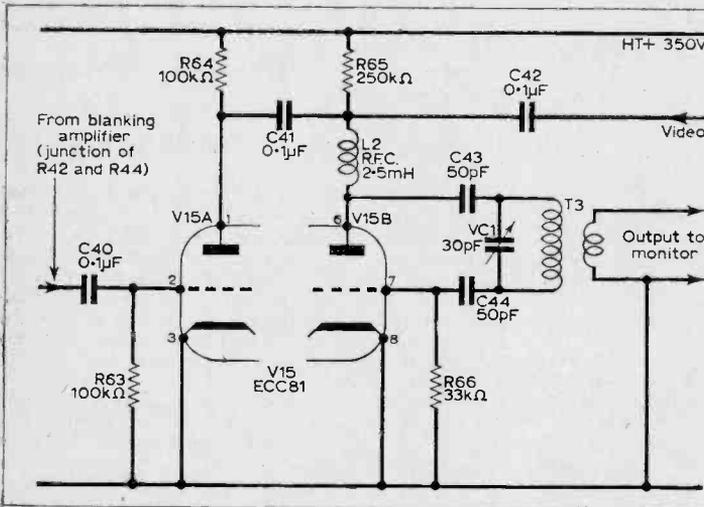

Fig. 24—The modulator and r.f. oscillator.
The final stage is the construction of the modulator and r.f. stage, see Fig. 24.
R.F. OSCILLATOR (Fig. 24)**
The purpose of the variable capacitor VC1 in the r.f. circuit (Fig. 24) is to take care of any drift in the r.f. sections of the monitor or transmitter. It will almost certainly be found that VC1 will have to be adjusted slightly every two or three hours to compensate for this drift.